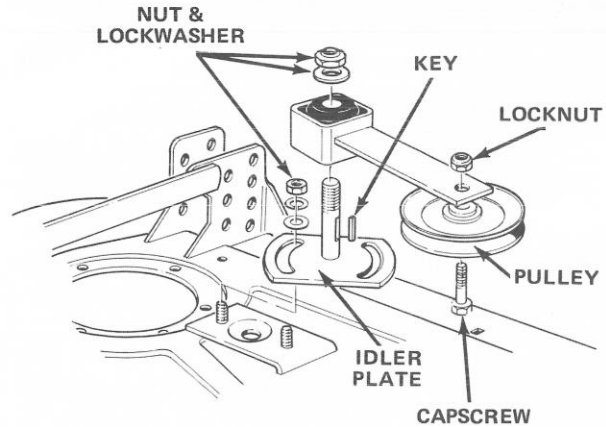

Figure 39
4. Remove large nut and flatwasher retaining idler arm on idler plate shaft (Fig. 39). Slide arm off shaft and account for the square key.
5. Remove capscrew and lockwasher securing idler pulley and arm together (Fig. 39).
5. Remove two nuts, lockwashers and flatwashers holding slotted idler plate in place (Fig. 39).